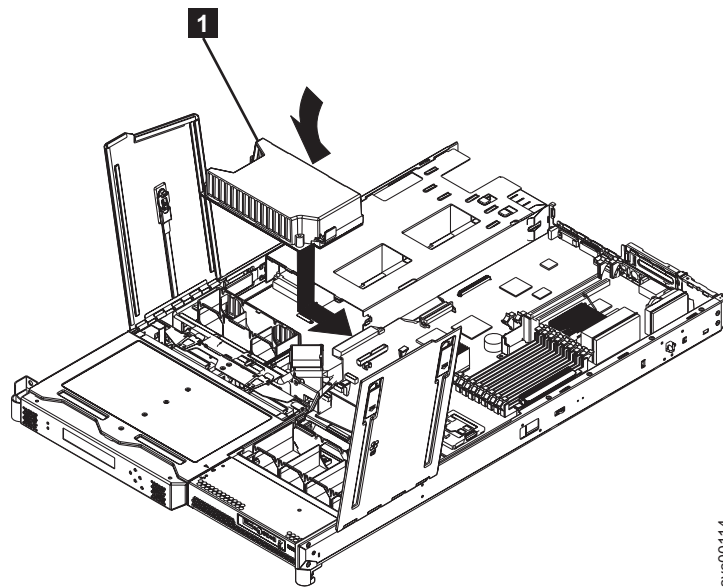

Figure 135. Replacing the power backplane
1. Lower the power backplane into position on the SAN Volume Controller 2145-8F2 or SAN Volume Controller 2145-8F4 and slide it to the right to connect it to the system board. See Figure 135.